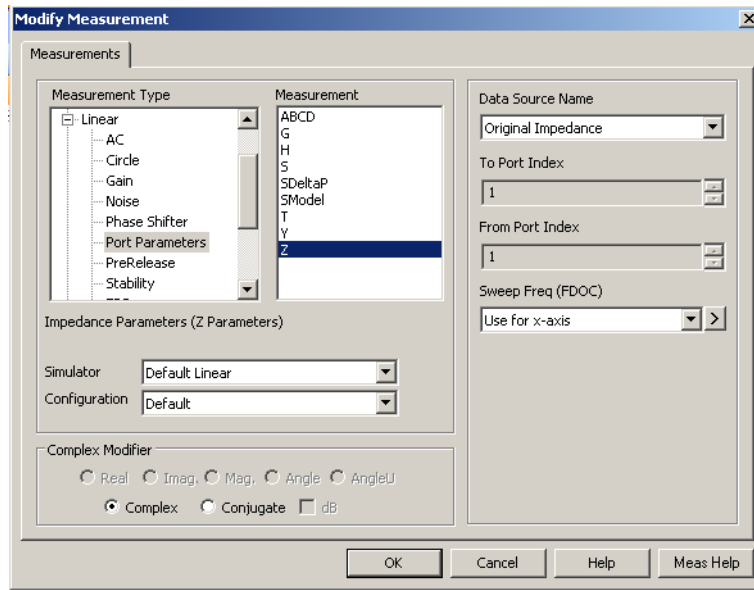

Figure 7.4: Chart 5 : Add Measurement Dialogue Box (For Input Impedance)
- Change your measurement dialogue box to match figure 7.4.